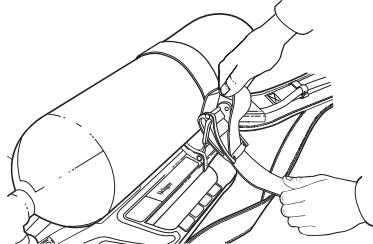

Fig. 35 Tightening the cylinder strap
- Take up the slack in the cylinder strap (Fig. 35).